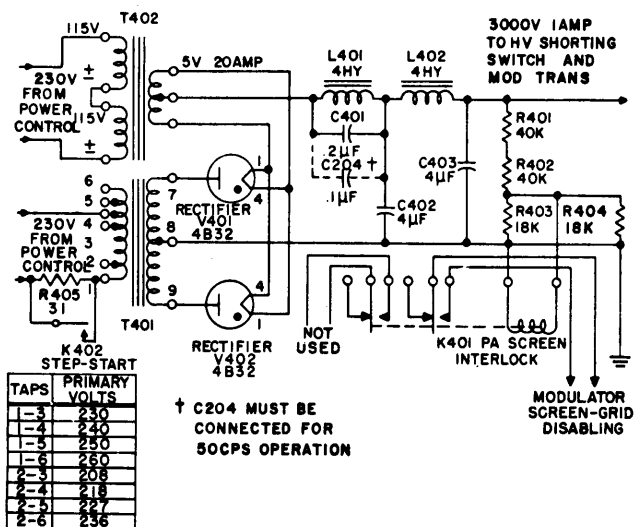

Figure 2-26. High-Voltage Power Supply, Simplified Schematic
(6) HIGH-VOLTAGE POWER SUPPLY (see figure 2-26).—The High-Voltage Power Supply consists of a rectifier chassis, a filter chassis, and rectifier plate transformer T401, shown in figure 1-5. This power supply uses two rectifiers, type JAN 4B32 (V401 and V402), connected as a full-wave rectifier to T401. The filaments receive power from rectifier filament transformer T402. The JAN 4B32 is a xenon-filled tube which operates satisfactorily over a wide ambient-temperature range. The rectified voltage is fed to a double-section choke-input filter consisting of chokes L401 and L402 and capacitors C402 and C403. This type of filter not only gives better voltage regulation but also protects the rectifiers by preventing current surges, such as those that occur when power is first applied. As an additional aid to better regulation, a series-resonant filter consisting of L401 and C401 maintains a high input to the rectifiers so that the power-supply output voltage does not rise excessively when the load is removed. Capacitor C404 is connected across C401 to lower the resonant frequency of the filter for 50-cps operation. The output voltage of 3000 volts, dc, at 1 ampere is applied to the plate circuits of power amplifier V106 and modulator tubes V603 and V604. A tap on the voltage divider and bleeder consisting of R401, R402, R403, and R404 energizes modulator screen interlock relay K401. Whenever the power supply is turned off, a set of contacts on this relay opens the screen-supply circuit (600 volts dc) to V603 and V604; this action protects these tubes from possible damage due to the excessive screen-grid current that would result when plate voltage is removed from these tubes. Another set of contacts of K401 can be used to control external warning lights, interlock circuits, etc., to meet the particular requirements of an individual transmitting location.